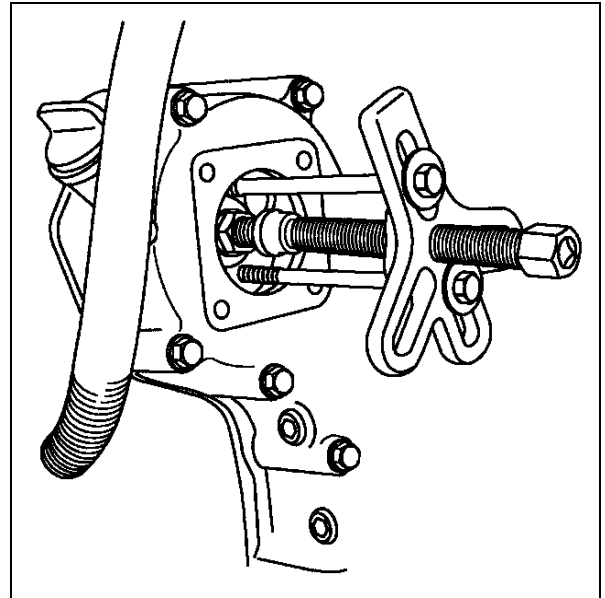

Figure 8
- (20) Remove the pump drive gear and hub as an assembly using an appropriate 2-bolt gear puller (Figure 8).